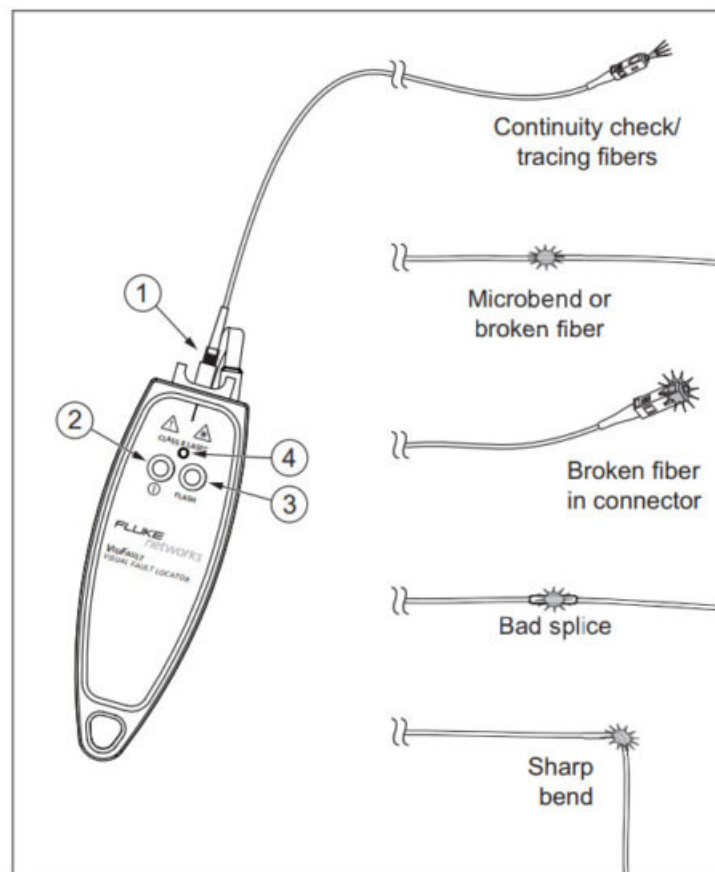

Figure 1. Using the Visual Fault Locator
- Never look directly into the VFL's output (item A in Figure 1). Momentary exposure to the VFL's output will not damage your eyes; however, direct, long-term exposure is potentially hazardous.
To use the VFL, refer to Figure 1 and do the following: